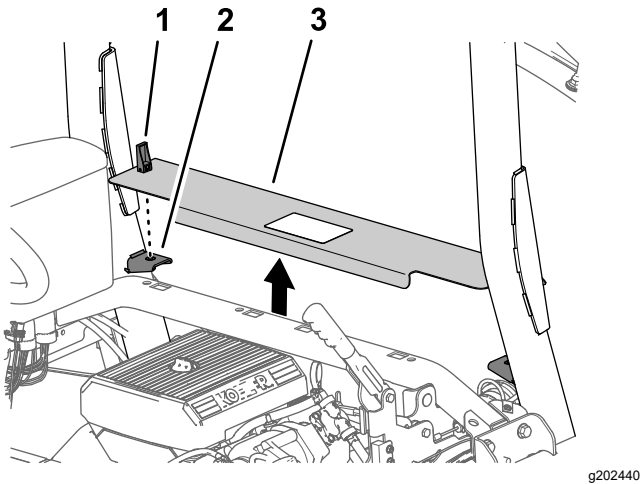

Figure 38
1. Rotate up the handles for the latches of the engine-access panel (Figure 38).
2. Lift the engine-access panel and remove it from the machine (Figure 38).